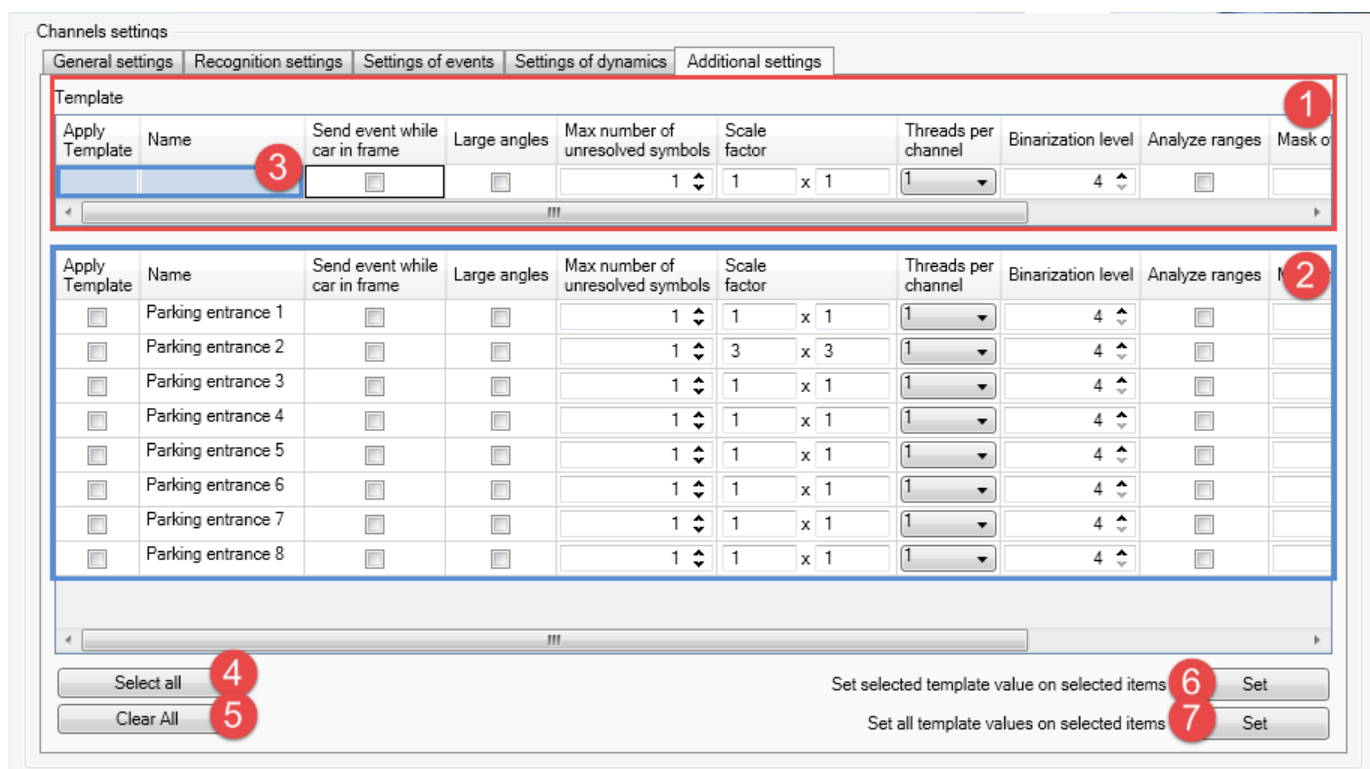
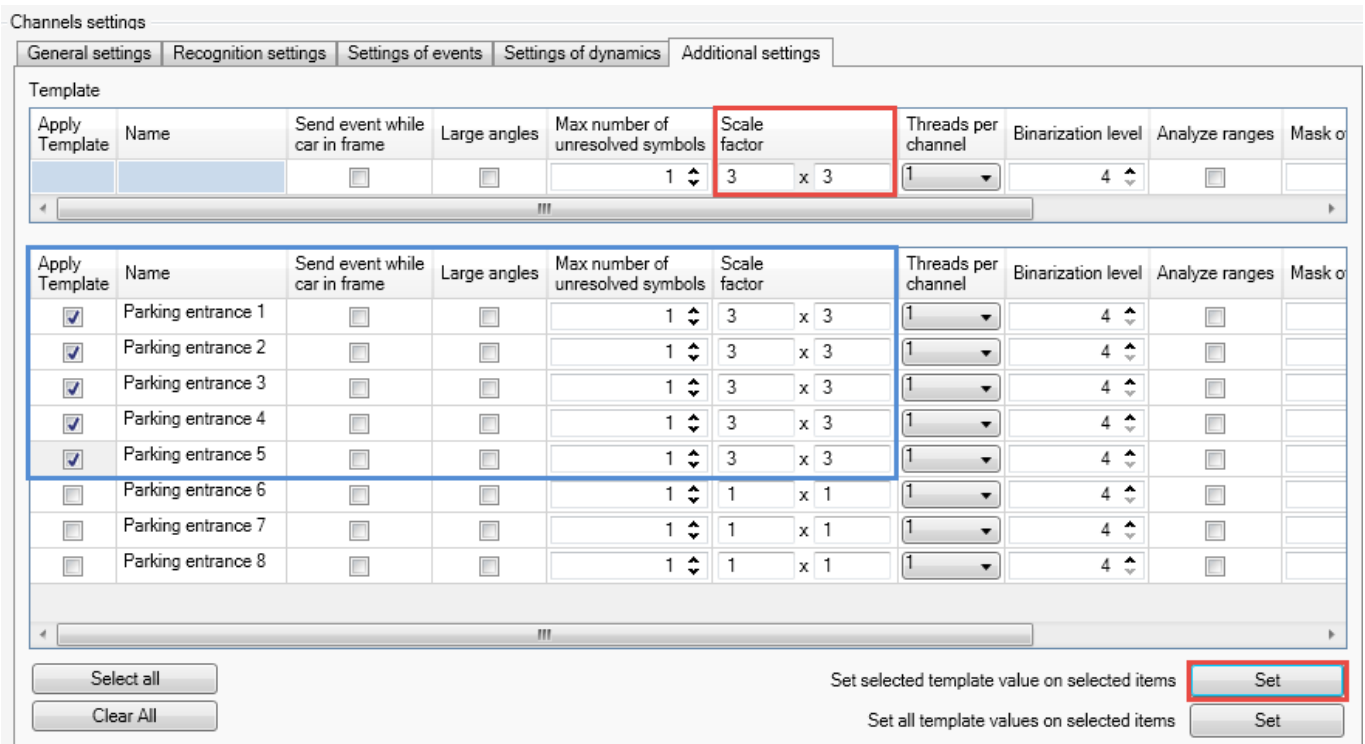

Figure 12: Template feature on the properties panel of a system object
Figure 13: Order of actions to apply a created template
The fields in template section (Fig. 12, 1) correspond to the fields of the object being configured (Fig. 12, 2).
2. Inserting the values into respective template fields (Fig. 12, 1).
Some object fields, such as **Name**, are supposed to be filled individually for each object and are not included into template fields. Such fields are highlighted blue (Fig. 12, 3).
- Click **Select all** button (Fig. 12, 4) to select all objects to be pre-set using a template.
- Click **Clear all** button (Fig. 12, 5) to deselect **Apply template** checkbox on all objects.
- To apply a single specific template value to the settings of selected objects, highlight the template value and click upper Set button (Fig. 12, 6). Also, see Fig. 13.
- To apply all template values to the settings of selected objects, click lower Set button (Fig. 12, 7).